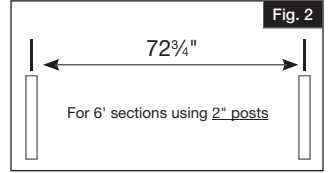

Fig. 2
- For 6' sections using 2" posts: measure  $72\frac{3}{4}$ " from the center of an end point and mark with stake (Fig. 2).